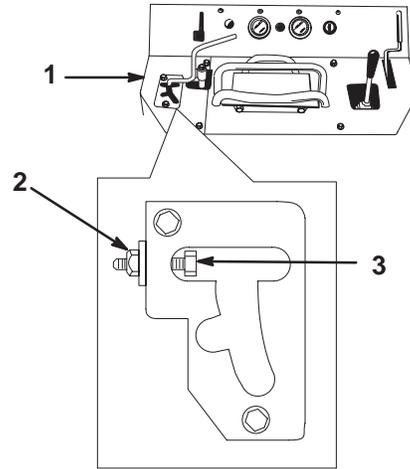

Figure 23
- Remove the three bolts securing the left control panel cover and remove the cover (Fig. 23).
- Loosen the jam nut on the adjustment bolt (Fig. 23).